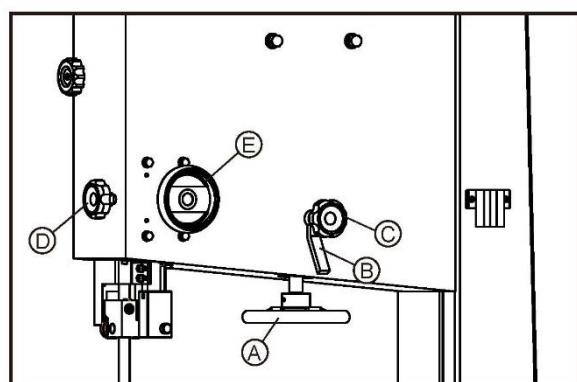

Fig.4.4.2
Place the blade onto the bandwheel checking the teeth are in a correct position, and then tighten the tension using the handwheel (A of FIG.4.4.2). The correct tension value is indicated on the tension scale inside the upper door, the indicated value corresponds to the width of the blade.
- Turn the bandwheels manually, checking that the blade does not interfere with any fixed parts and that the blade is placed correctly on the bandwheels. The points of the teeth should slightly protrude over the edge of the bandwheels. To adjust the blade position on the bandwheels slacken the locking lever( B of FIG.4.4.2), and then turn the knob(C of FIG.4.4.2): the blade will move inwards when turn the knob clockwise and the blade will move further out when turn the knob anticlockwise; A quarter of one circle is sufficient to make a noticeable displacement.
The adjustable saw band guard should be positioned as close as possible to the workpiece. To adjust the height, release the locking knob(D of Fig.4.4.2 ) and turn the handwheel (E of Fig.4.4.2) to adjust the guard up or down. Lock the knob once the correct position of guard is obtained.
The adjustable saw band guard should be positioned as close as possible to the workpiece. To adjust the height, release the locking knob(D of Fig.4.4.2 ) and turn the handwheel (E of Fig.4.4.2) to adjust the guard up or down. Lock the knob once the correct position of guard is obtained. This operation must always be carried out while the machine is stopped.